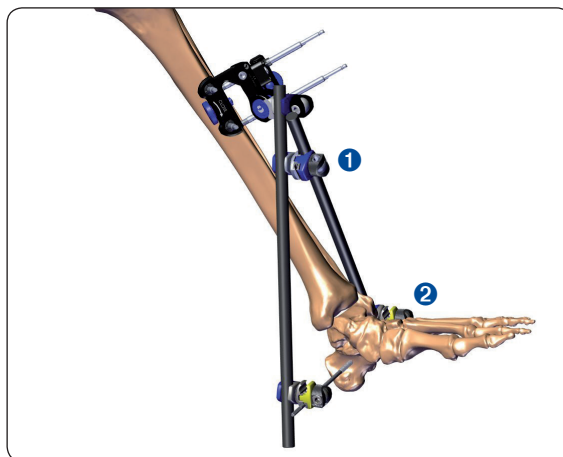

Fig. 16
Attach a large Galaxy (blue) clamp to the Rod. Connect this clamp (1) to a second (lateral) Transition Clamp (99-93030) (2) using a second Rod. (Fig. 16)